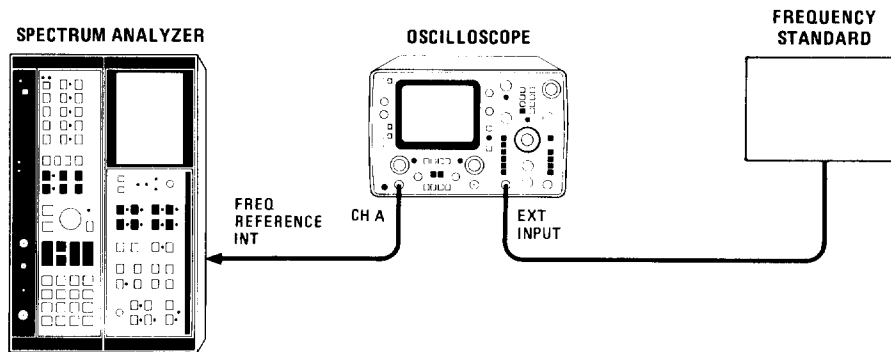

FIGURE 38. 10 MHz STANDARD ADJUSTMENT SETUP
1. Position instrument on right side as shown in Figure 38, and remove bottom cover.
Refer to Figure 38